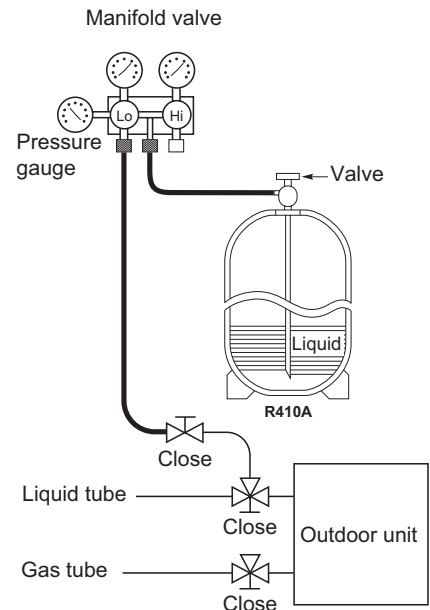

Fig. 1-42
- Charging additional refrigerant (calculated from the liquid tube length as shown in “Amount of additional refrigerant charge”) using the liquid tube service valve. (Fig. 1-42)